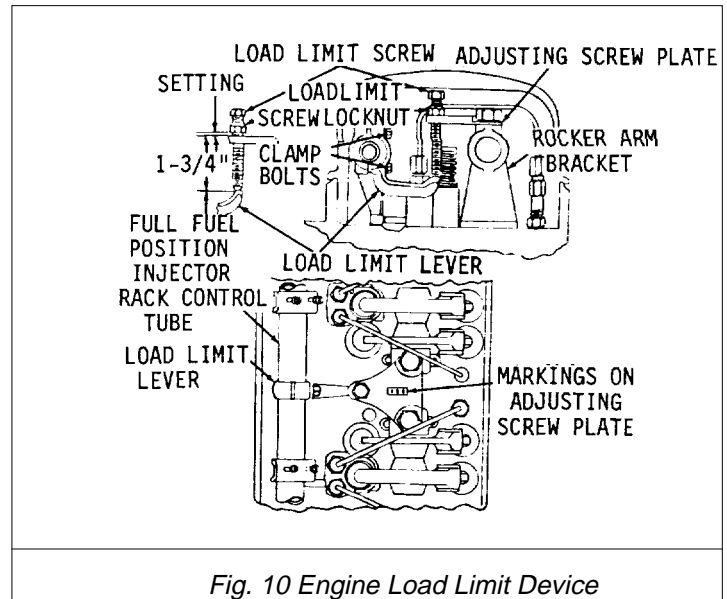

Fig. 10 Engine Load Limit Device
Engines with mechanical governors may be equipped with a load limit device (Fig. 10) to reduce the maximum horsepower.
in Fig. 10. Make sure the counterbores in the adjusting screw plate are up. The rocker arm shaft bracket bolts which fasten the adjusting screw plate to the brackets are tightened to 75-85 ft-lbs (102-115 Nm) torque. All other rocker arm shaft bracket bolts are tightened to 90-100 ft-lbs (122-136 Nm) torque. Then adjust the load limit device as follows:
- (1) Loosen the load limit screw locknut and remove the screw.
- (2) Loosen the load limit lever clamp bolts so the lever is free to turn on the injector rack control tube.
- (3) With the screw out of the plate, adjust the load limit screw locknut so the bottom of the locknut is 1-3/4" from the bottom of the load limit screw (Fig. 10) for the initial setting.
- (4) Thread the load limit screw into the adjusting screw plate until the locknut bottoms against the top of the plate.
- (5) Hold the injector rack control tube in the full-fuel position and place the load limit lever against the bottom of the load limit screw. Then tighten the load limit lever clamp bolts.
- (6) Check to ensure that the injector racks will just go into the full-fuel position readjust the load limit lever if necessary.
- (7) Hold the load limit screw to keep it from turning, then set the locknut until the distance between the bottom of the locknut and the top of the adjusting screw plate corresponds to the dimension (or number of turns) stamped on the plate. Each full turn of the screw equals .042", or .007" for each flat on the hexagon head.